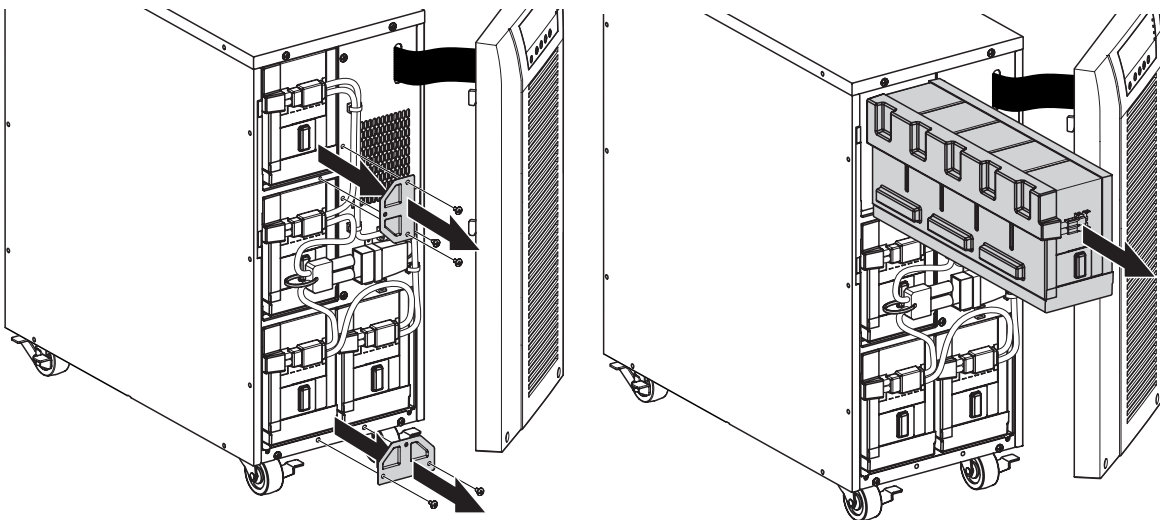

Figure 30. Free the battery tray.
4. Remove the metal fixing part to free the battery tray (see figure 30).